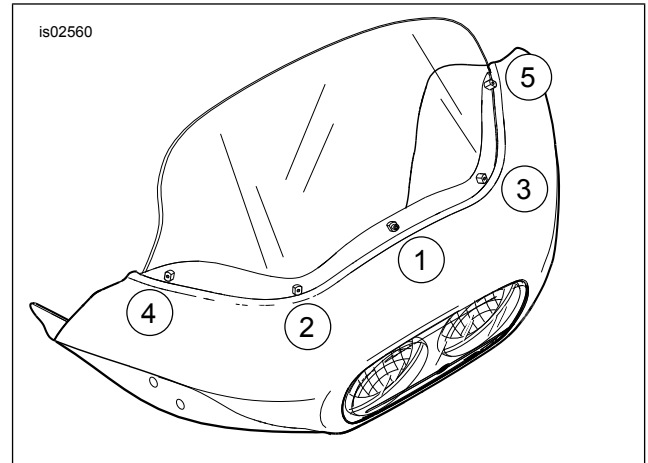

Figure 2. Screw Tightening Sequence
4. Repeat steps 1 and 2 for the center screw, using the **center** windshield trim fastener (6) from the kit.
5. Repeat steps 1 and 2 for the fourth and fifth screw, using the remaining **outer** windshield trim fasteners (7) from the kit.
6. Tighten all five fasteners securely, in the sequence shown in Figure 2 with open-end wrench (12). When tightening the fasteners at locations 4 and 5, hold the ends of the windshield tight against the fairing.
7. Position the chrome trim (1) in place at the base of the windshield, covering the black rubber windshield trim channel. Hook the rightmost hole over the center trim fastener, and line up the two remaining holes with the holes on the outer fasteners.
8. **If the two holes line up:** Place a washer (10) onto the threads of each screw (9), and use the 1/8 inch hex key (11) to thread the screws into the fasteners at locations 2 and 4. **DO NOT** fully tighten at this time. **If either of the two holes DO NOT line up:** Remove and replace the misaligned outer windshield trim fastener with the **offset** windshield trim fastener (8). Tighten securely, lining up the offset hole with the hole in the chrome trim. Install a washer onto the threads of each screw, and use the 1/8 inch hex key (11) to thread the screws into the fasteners at locations 2 and 4. **DO NOT** fully tighten at this time. Once aligned, if the trim does not sit flush on the windshield and fairing, replace trim fastener (7 or 8) with the thin fastener (13).
9. Repeat Steps 7 and 8 with the left side chrome windshield trim (2).
10. Line up the upper edge of the center trim (3) squarely with the ridge along the outer trims, and line up the center hole.
11. Press the center trim firmly against the outer trims with your thumbs, engaging the 3M Dual Lock™ fasteners to hold the center trim firmly in place. Install the washer (10) onto the screw (9) threads, and thread the screw into the fastener. Tighten securely. Tighten the remaining screws in the same way, working outward as shown in Figure 2
12. Obtain the new Road Glide medallion (4) from the kit. With the text reading upright, position the medallion squarely over the oblong depression in the center trim. Press the medallion into the depression, engaging the Dual Lock fasteners to hold the medallion firmly in place.